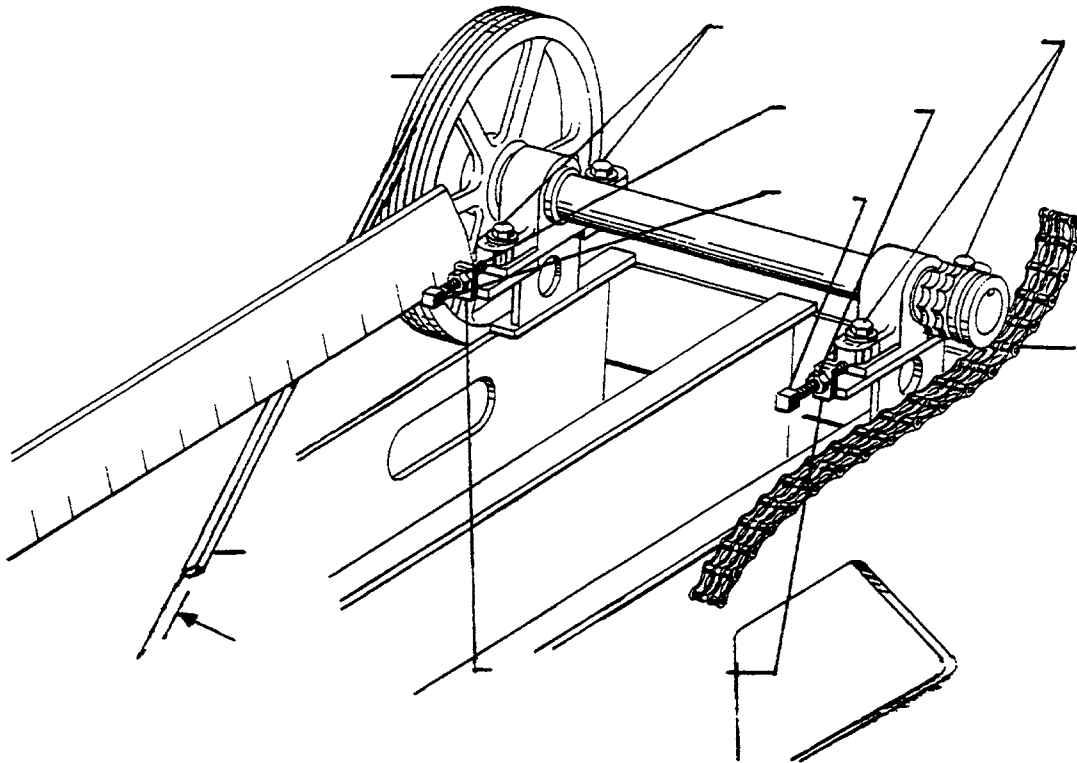

Figure 25. V-Belt and Drive Chain Adjustment
1. Loosen the pillow bearing bolts (Figure 25) only to the point where the bolts will remain snug.